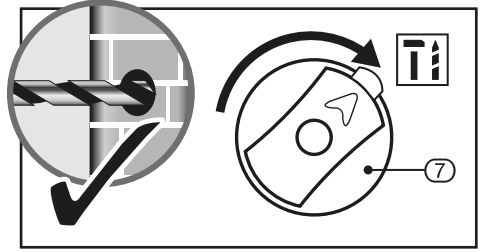

FIG.5
9.2 PNEUMATIC HAMMER DRILLING – FIG. 5